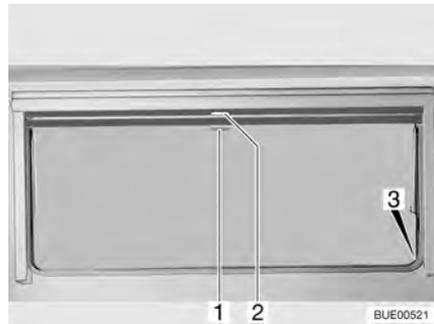

Fig. 66 Hinged window
- Pull blind at the handle (Fig. 66,2) downwards. If the blind is to be completely closed, it is suspended into the locking devices (Fig. 66,3) situated on both sides of the window frame.
- If the blind is completely closed: Press handle (Fig. 66,2) downwards and, at the same time, tilt it slightly inward. The blind can be taken out of the locking devices situated on both sides of the window frame.
- If the blind is in an intermediate position: Pull the handle (Fig. 66,2) slightly downwards until the locking device releases.
- Pull insect screen at the handle (Fig. 66,1) down and hang it into the locking devices (Fig. 66,3) situated on both sides of the window frame.
- Press handle (Fig. 66,1) downwards and, at the same time, tilt it slightly inward. The insect screen can be taken out of the locking devices situated on both sides of the window frame.